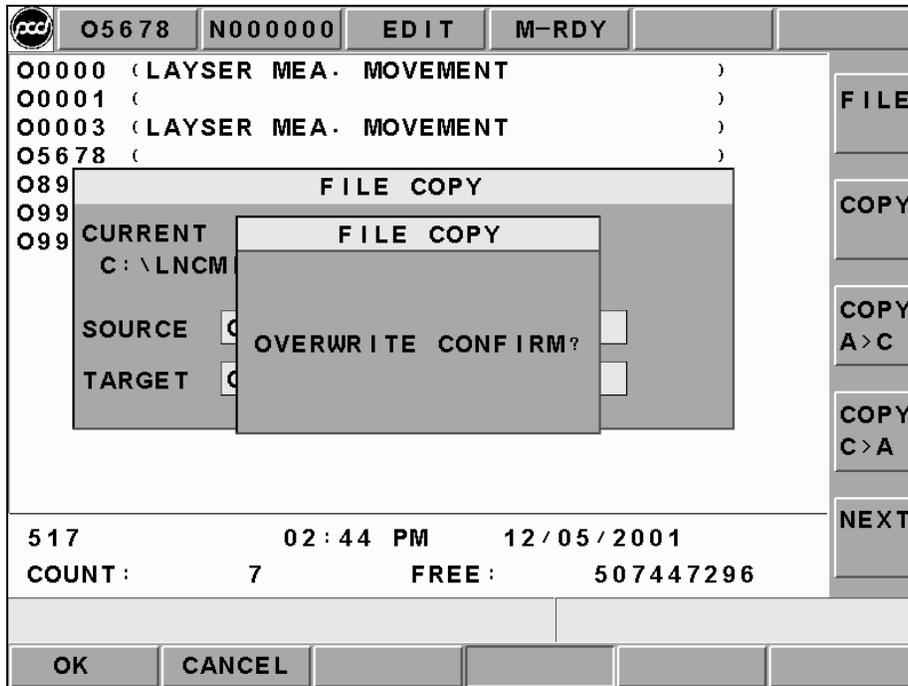

Figure 2.5-11 Screen When the Copied File is Already Existed
3. If the file is already existed, then the reminding windows will occur. Please confirm if want to execute overwriting action. The screen is as Figure2.5-11.